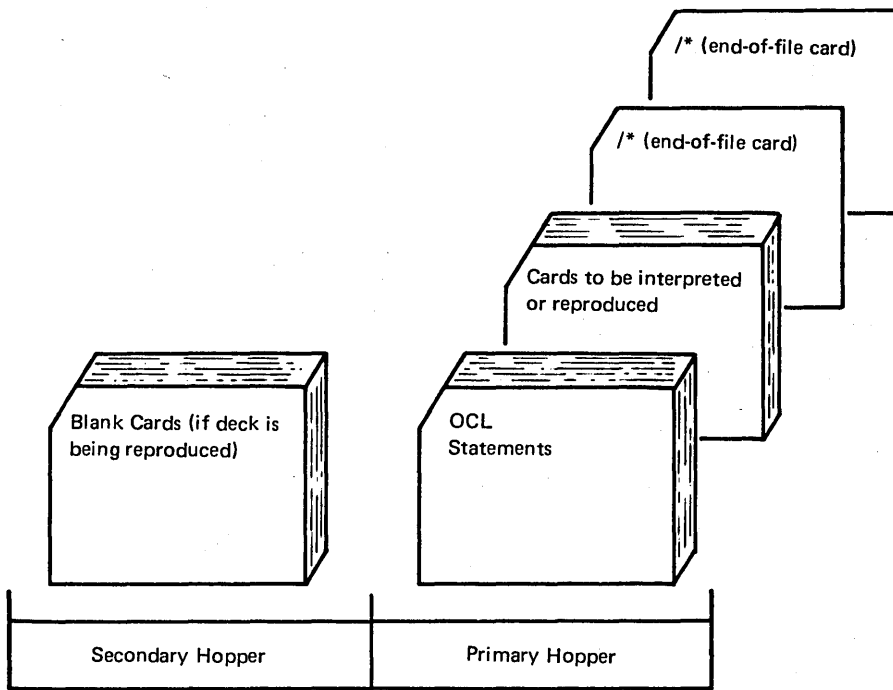

Figure 27. Input Deck for Reproduce or Interpret Without Reformatting
3. Place OCL statements, followed by cards required for the job, in primary hopper of MFCU. Load cards face down, top edge to the left. Be sure two end-of-file (/\*) cards are at the end of the deck. Several reproduce and interpret jobs can be placed in the MFCU at the same time. Place the cards in the order shown in Figures 27 and 28. Each deck, however, must be followed by two end-of-file cards.